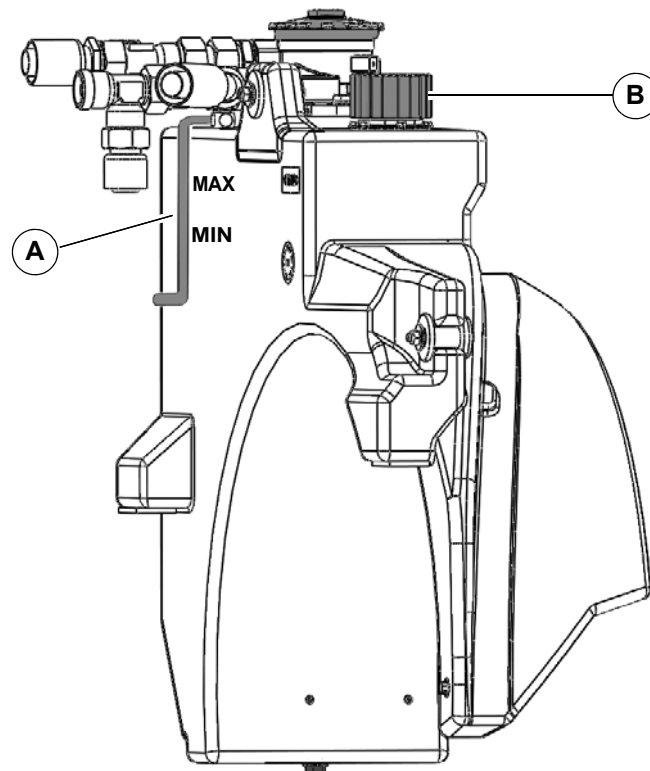

Fig. 85:
Check the hydraulic oil level weekly at the level indicator **Fig. 85-A** and top up as required. Use only hydraulic oils approved by the manufacturer (HVLP 46) e.g. Mobiloil DTE 10 Excel.
2. Unscrew the cap **Fig. 85-B** and top up with hydraulic oil.